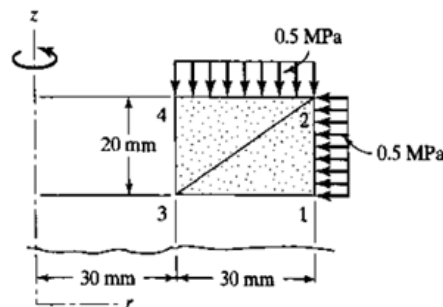

Figure 3
7. For the axisymmetric loading shown in figure 3, develop the nodal force vector using triangular elements. [10]